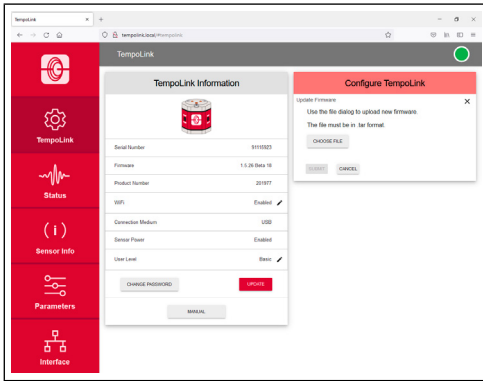

Fig. 19: The window "Configure TempoLink" to update the firmware
- Click the UPDATE button. The “Configure TempoLink” window opens (Fig. 19).